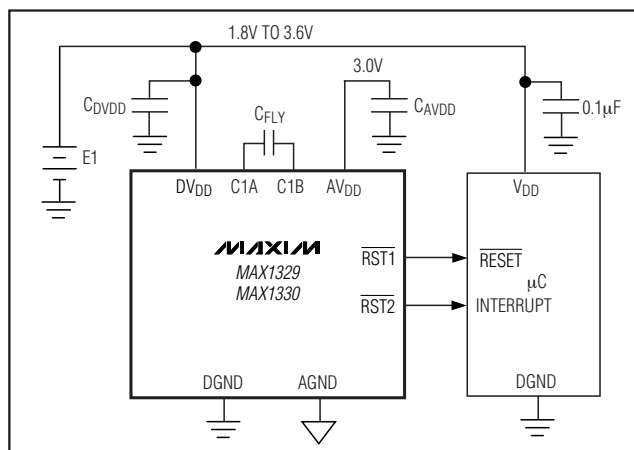

Figure 25. Power-Supply Circuit Using a Battery for  $DV_{DD}$  and Internal Charge Pump Set to 3.0V for  $AV_{DD}$
Figure 25 shows  $DV_{DD}$  is powered from a battery with the charge-pump output set to 3.0V. The charge pump can draw high peak currents from  $DV_{DD}$  under maximum load. Select an appropriately sized bypass capacitor for  $DV_{DD}$  ( $\geq 10$  times  $C_{FLY}$ ). Supply ripple can be reduced by increasing  $C_{AVDD}$  and/or the charge-pump clock frequency.
**Table 32. External Component Selection for 25mA Output Current and  $2V_{DVDD} - V_{AVDD} \geq 0.4V$  (Figure 25)**